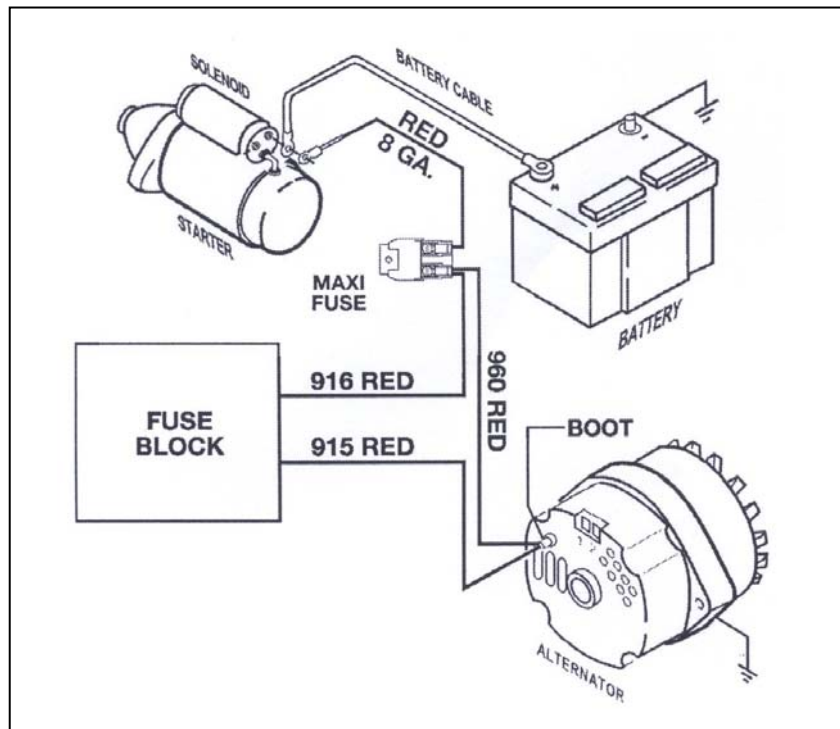

Figure 9-1B High Output Wire
- CAUTION: IF USING AN ALTERNATOR WITH AN OUTPUT LARGER THAN 65 AMPS, YOU WILL ALSO NEED TO USE JUMPER WIRE #960 (RED), INCLUDED IN BOX. THE WIRE END WITH THE RING TERMINAL AND RUBBER BOOT WILL CONNECT TO THE ALTERNATOR OUTPUT LUG. ROUTE THE OTHER END TO THE STARTER. CUT THE WIRE AND CRIMP ON A RING TERMINAL. INSTALL ON STARTER TERMINAL WITH CABLE COMING FROM BATTERY. SEE FIGURE 9-1B.**
- 9.1.3** Connect a 14-gauge wire from the Alternator terminal where wire #914 is connected to either of the ELECTRONIC Voltage Regulator terminals OR terminal (I) of the MECHANICAL Voltage Regulator. On existing Mopar harnesses, this would be a blue wire.